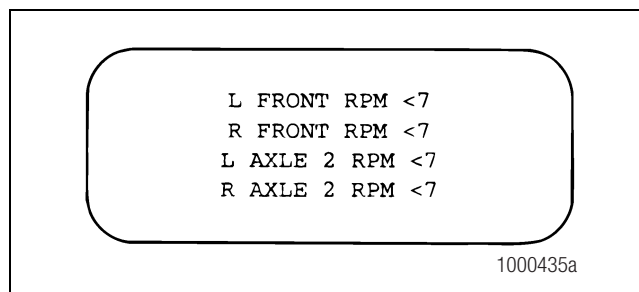

Figure 3.17
- Monitors the inputs to the ECU from the wheel sensors, one at a time. Figure 3.17.